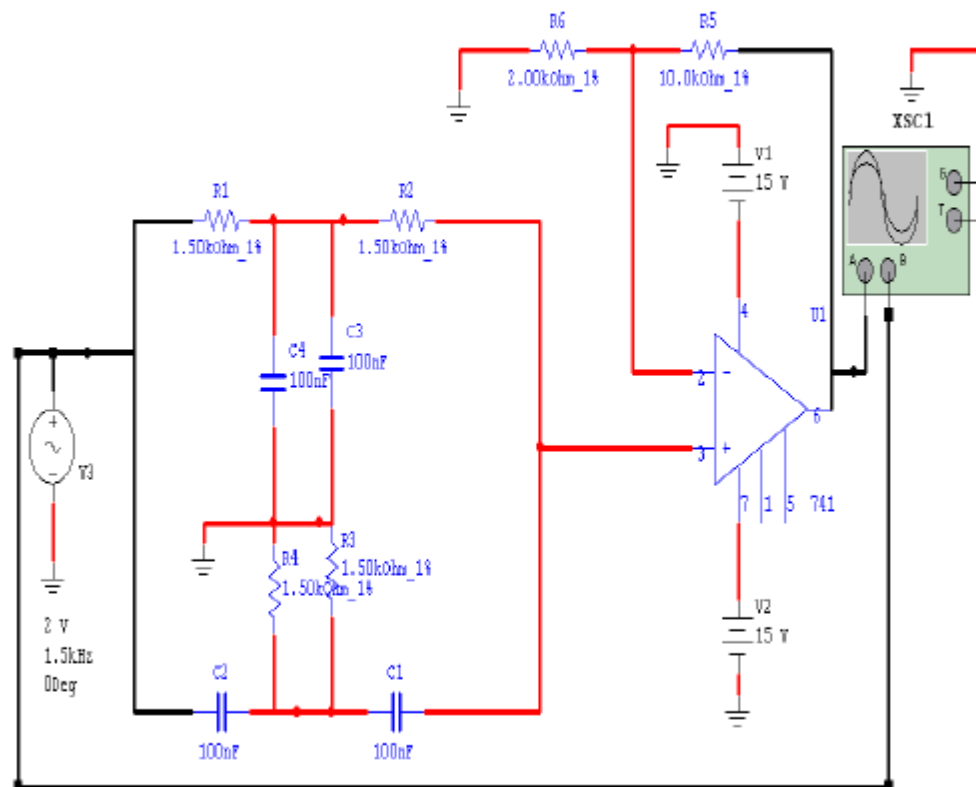

Fig.16 3rd order notch (BRF) filter
- Connect the circuit shown in Fig.16.